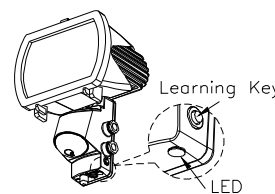

FIGURE 15
- Reinststate the power supply to the floodlight and switch the floodlight on from the wall switch if installed. The led indicator on the bottom of the floodlight wiring box (FIGURE 15) will flash on and off continuously to indicate that no codes are installed in the floodlights memory. The floodlight can memorise the codes for up to twelve separate TRS transmitters.
1) Activate the floodlight receiver learning mode by pushing and holding in the Learning Key button, located on the side of the receiver floodlight wiring box, for more than three seconds (FIGURE 15). The led on the receiver floodlight will illuminate whilst you hold in the Learning Key button and then extinguish, release the Learning Key button. The led will flash briefly to indicate the receiver is in learning mode. The receiver will remain in learning mode for approximately thirty seconds or until a code is received and learnt.
5) Activate the floodlight receiver learning mode by pushing and holding in the Learning Key button, located on the side of the receiver floodlight wiring box, for more than three seconds (FIGURE 15). The led on the receiver floodlight will illuminate whilst you hold in the Learning Key button and then extinguish, release the Learning Key button. The led will flash briefly to indicate the receiver is in learning mode.